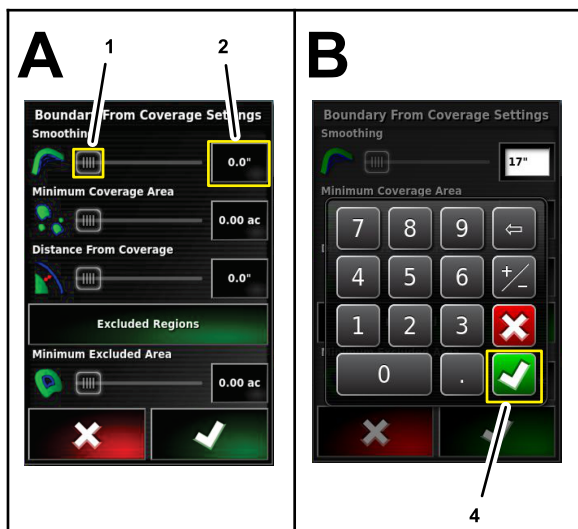

Figure 52
3. Press the number icon for the Smoothing setting (Figure 52). Use the on-screen keypad to enter a value, and press the confirm icon.